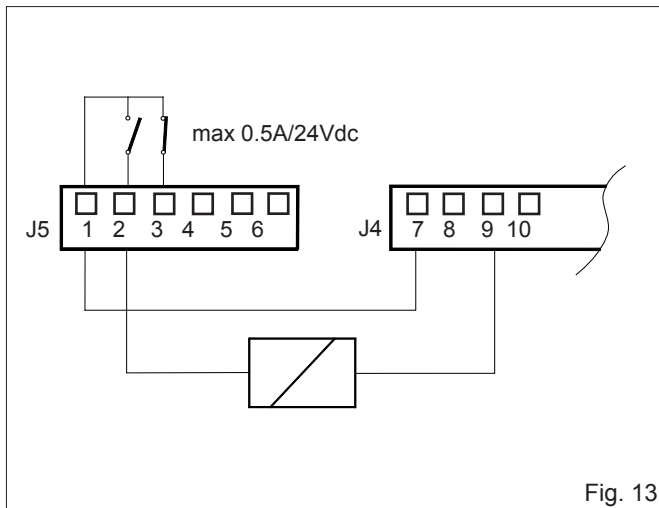

Fig. 13
**⑥ J5 TERMINAL BLOCK** Connection to relay Outputs (figs. 13,14, 15)
- 2 Electric lock - N.O. Contact (max. capacity 0.5 A/24 V)** (fig.13).